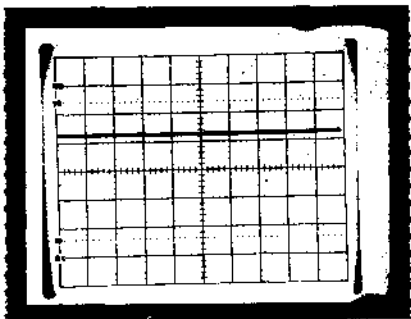

FIGURE 2
- Without photocell - while observing Jack 9, adjust the pot on the R401 until the pulses are 36 msec apart for 60 hz and 42 msec apart for 50 hz. Reference Figure 2, go to step 5.